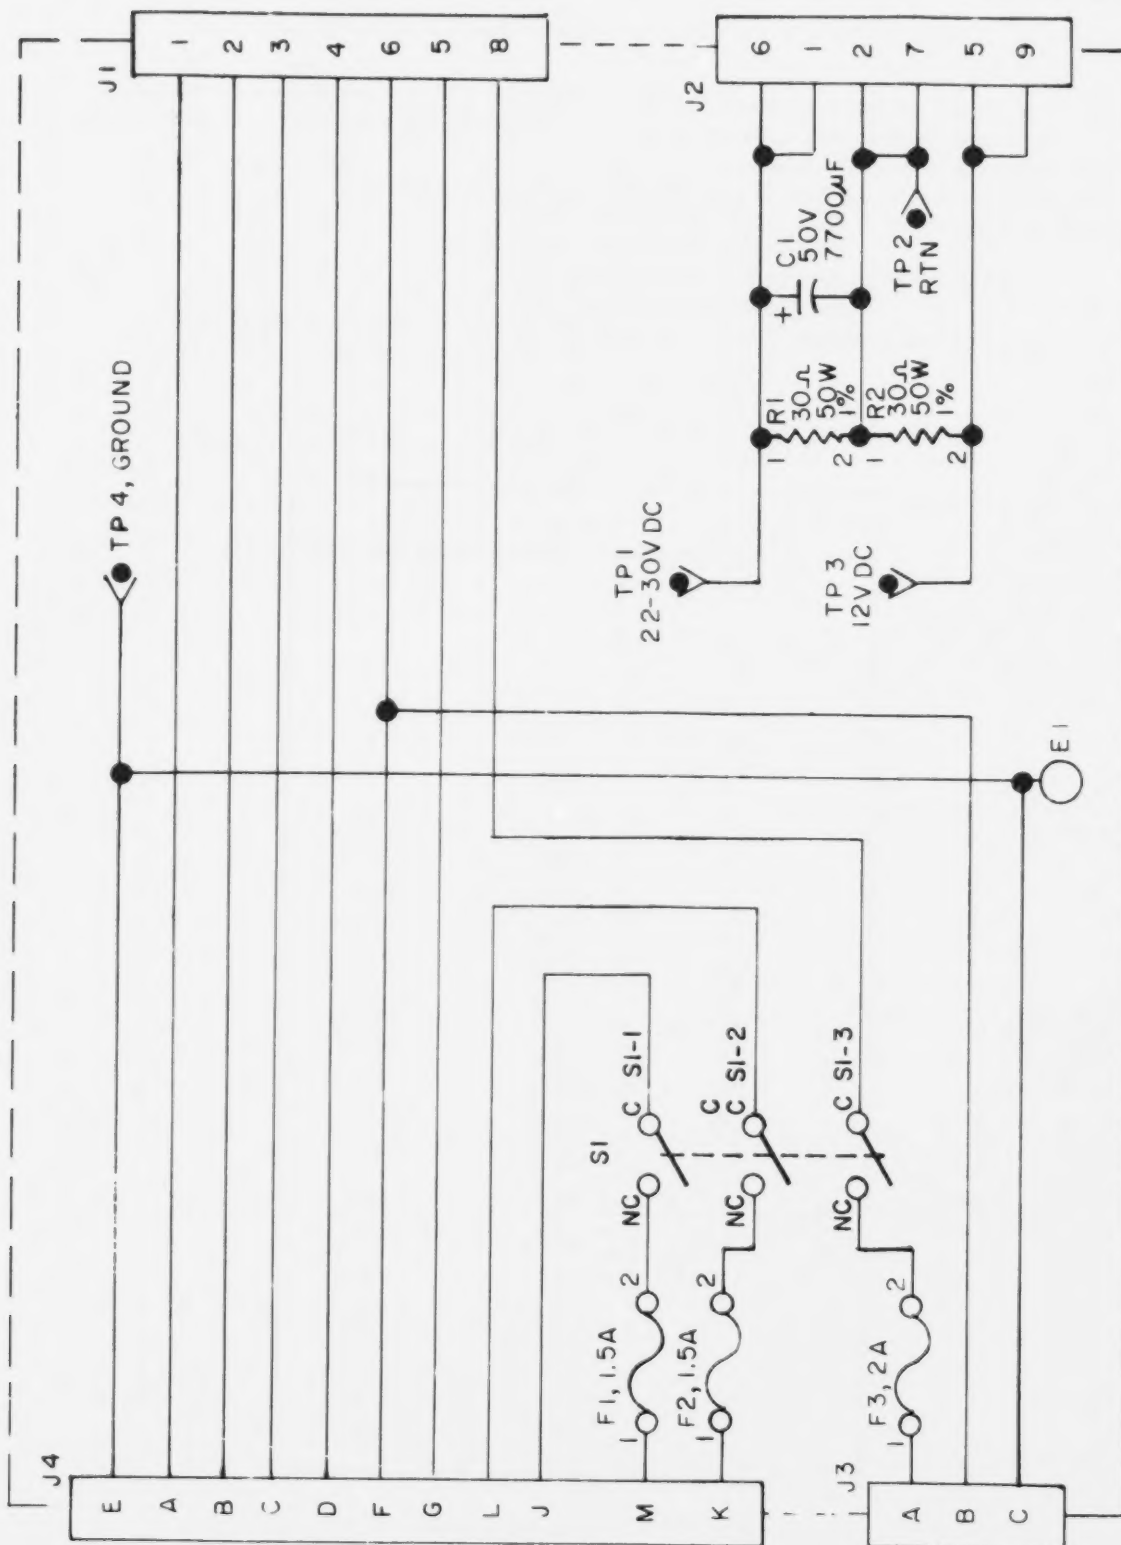

Figure 6-39. FILTER ASSEMBLY TEST FIXTURE, SCHEMATIC DIAGRAM
A. FILTER ASSEMBLY TEST FIXTURE TEST PROCEDURES (fig. 6-39)